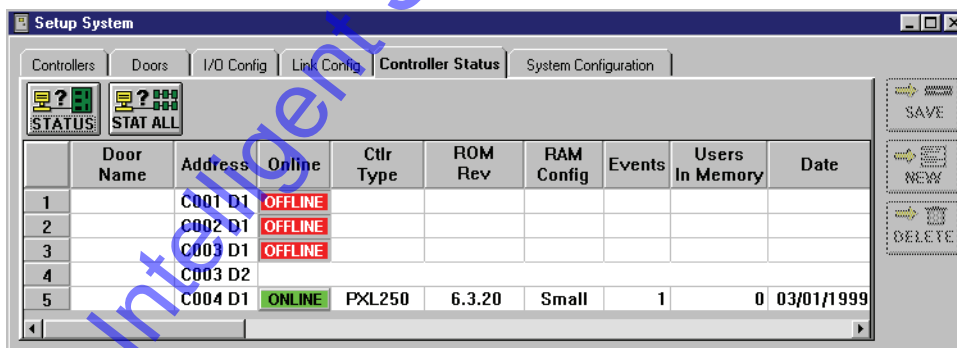

Figure 2-50: Received One Controller’s Status
4. Click on the  button. The selected controller is polled for its configuration and status, and this information is entered into the Controller Status spreadsheet (see Figure 2-50).